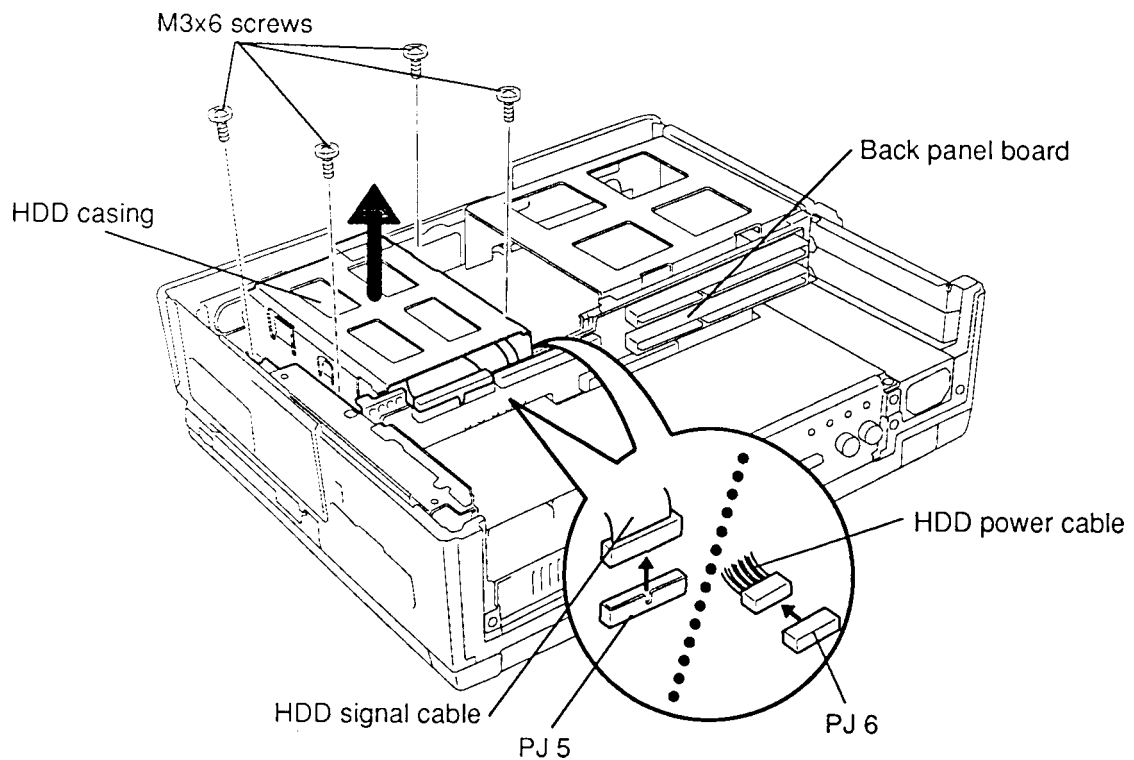

Figure 4-19 Removing the HDD Unit
To remove the T6600C's HDD, follow the steps below and refer to Figures 4-19 and 4-20.
3. Remove the **four M3x6 screws** securing the **HDD unit** (Figure 4-19).
4. Lift up the HDD and disconnect the **HDD signal cable** from **PJ5** and the **HDD power cable** from **PJ6** on the **back panel board** (Figure 4-19).
To install the HDD, follow the steps below and refer to Figures 4-19 and 4-20.
4. Connect the **HDD signal cable** to **PJ5** and **HDD power cable** to **PJ6** on the **back panel board** (Figure 4-19).
5. Place the HDD in the computer and secure it with **four M3x6 screws** (Figure 4-19).